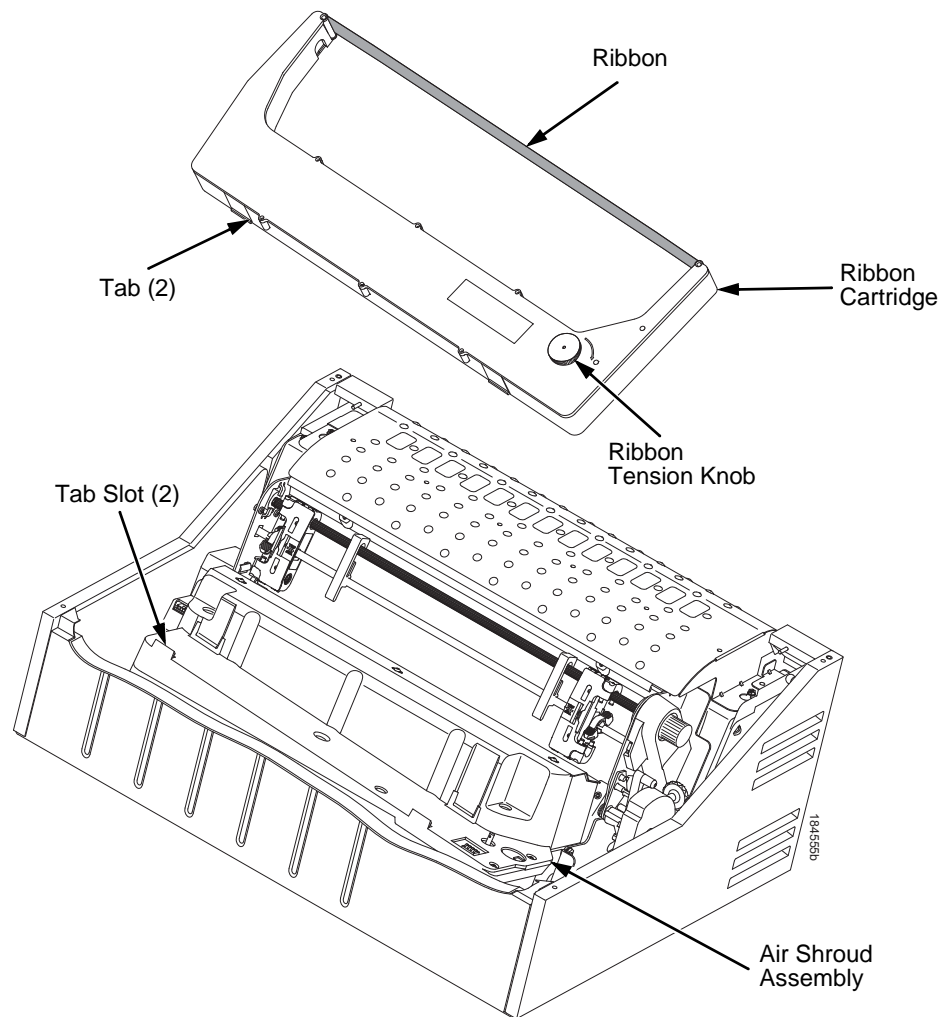

Figure 22. Installing the Ribbon Cartridge
6. Hold the cartridge at an angle, so that the rear side nearest you is lower than the side with the ribbon. Find the two tabs on the outside of the cartridge and place them into the corresponding slots on the air shroud assembly (see Figure 22).